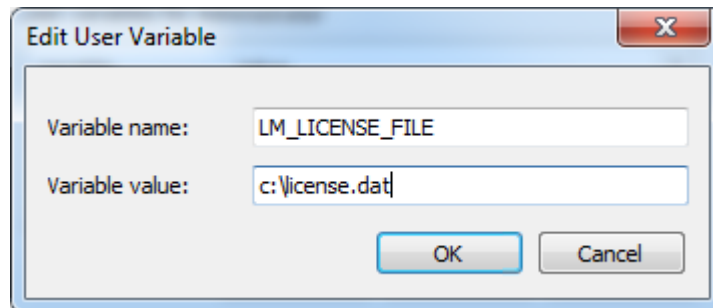

Figure 2-3 Setup **LM_LICENSE_FILE** Environment Variable
5. In the popup **New User Variable** dialog as shown in **Figure 2-3**, type “**LM_LICENSE_FILE**” in the **Variable name** edit box and type “**c:\license.dat**” in the **Variable value** edit box.